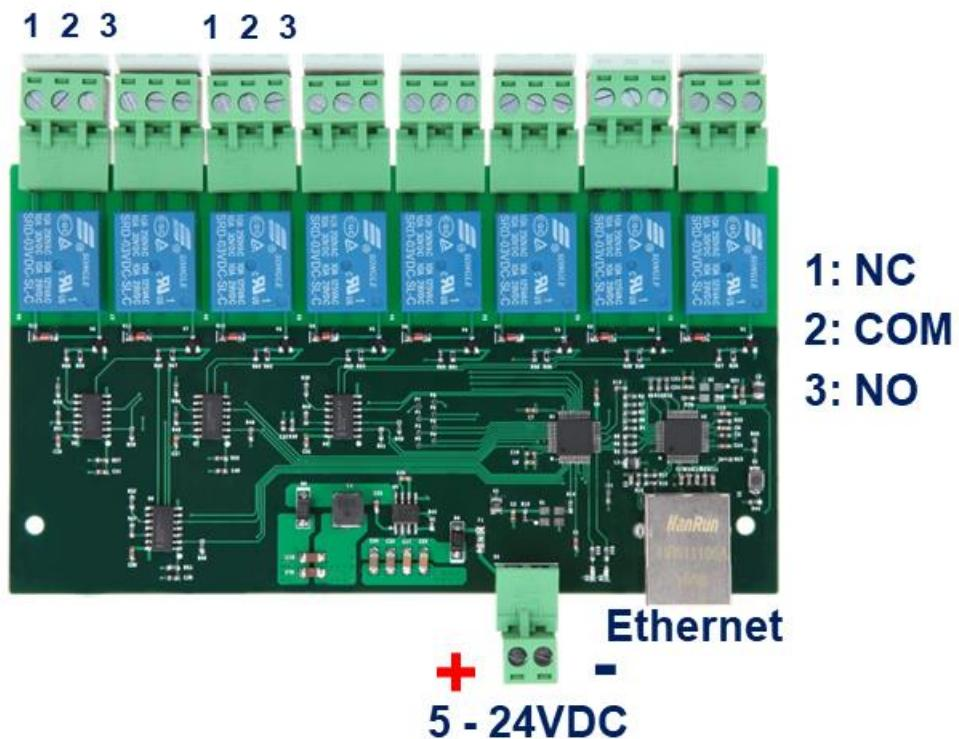

Fig. 1.1
1. Connect BEM module with your routers or computer via a standard Ethernet cable. And then power it on with 5 - 24VDC power supply. (see **fig.1.1 at page 2**)
1. Connect BEM module with your routers or computer by Ethernet cable, and then power it on with 5 - 24VDC power supply. (see **fig.1.1 at page 2**)